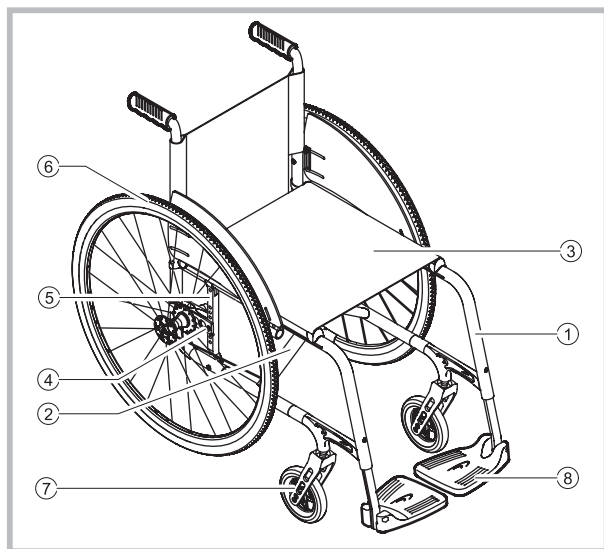

Figure 1
The wheelchair consists of two side frames ①, which are attached by a cross brace ②. The cross brace to which the seat-cover ③ is attached, enables the wheelchair to be folded. The rear wheels ⑥ are attached to the side frame by the adapter plates ④ and an adapter plate support ⑤. The front wheels ⑦ as well as the footrest ⑧, which can be either one or two piece, are attached to the front of the side frame. (See figure 1)